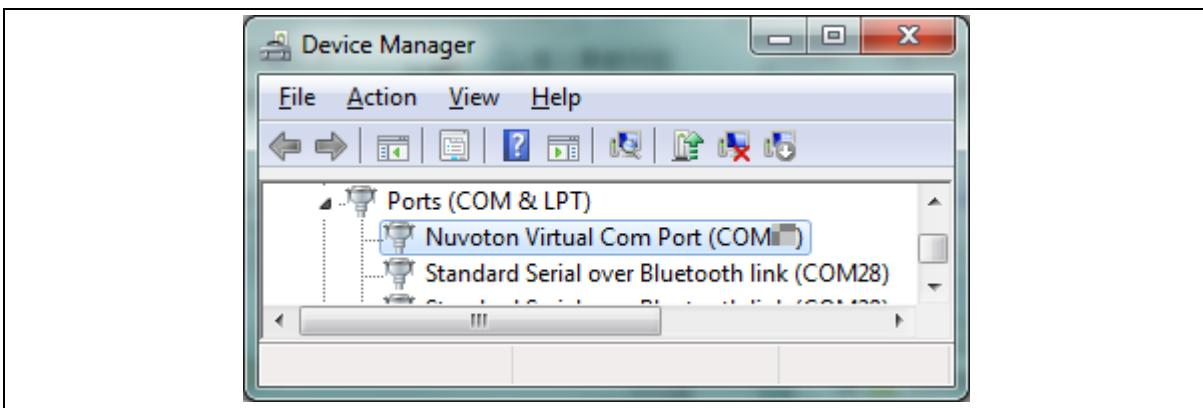

Figure 3-5 Device Manger
3. Find the "Nuvoton Virtual COM Port" on the Device Manger as Figure 3-5.